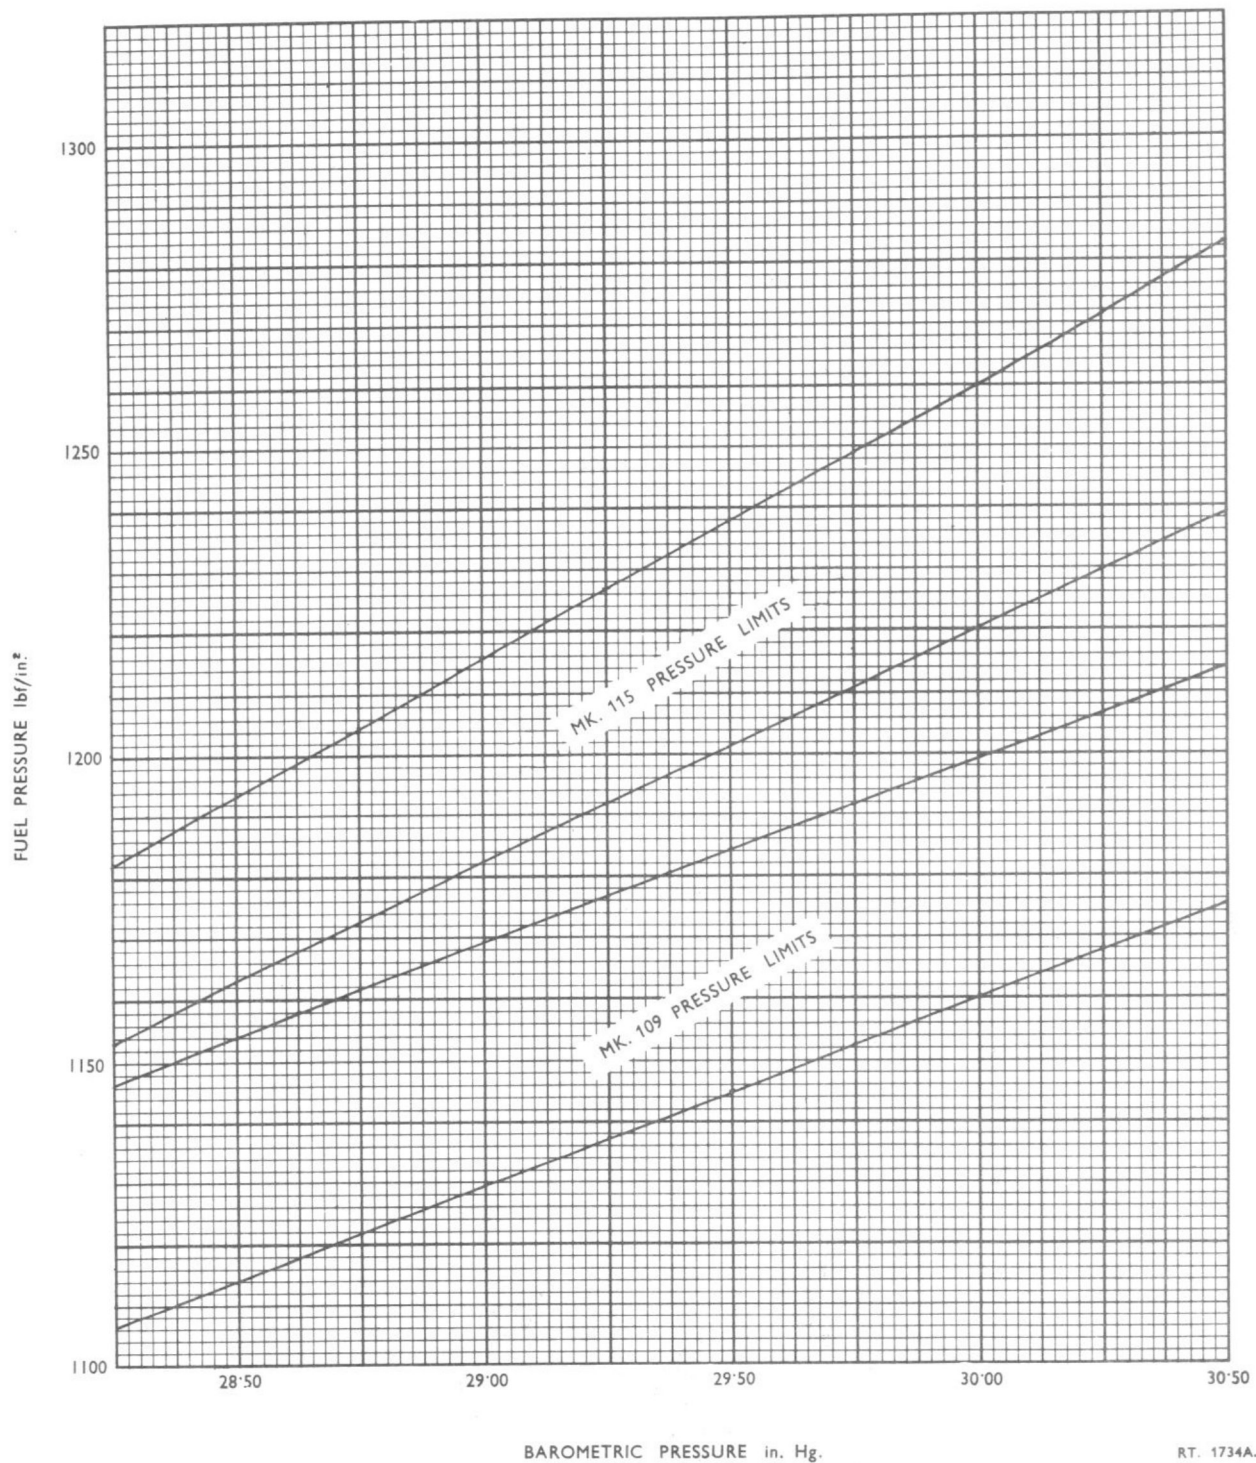

Fig. 5 Correction of fuel pump delivery pressure
24. The pressure check should be made at 3000 rev/min, using a fuel pressure gauge reading to 2000 lbf/in². The pressure measured should be within the limit lines in fig. 5 (Mk. 109 and 115) when read against the barometric pressure at the time of the check. If the fuel pressure is not within the limits, adjust the b.p.c. (para. 25). The fuel pressure setting on Mk. 121 and 122 engines is very critical if the engine is to remain surge-free under fast acceleration conditions at altitude; the nominal